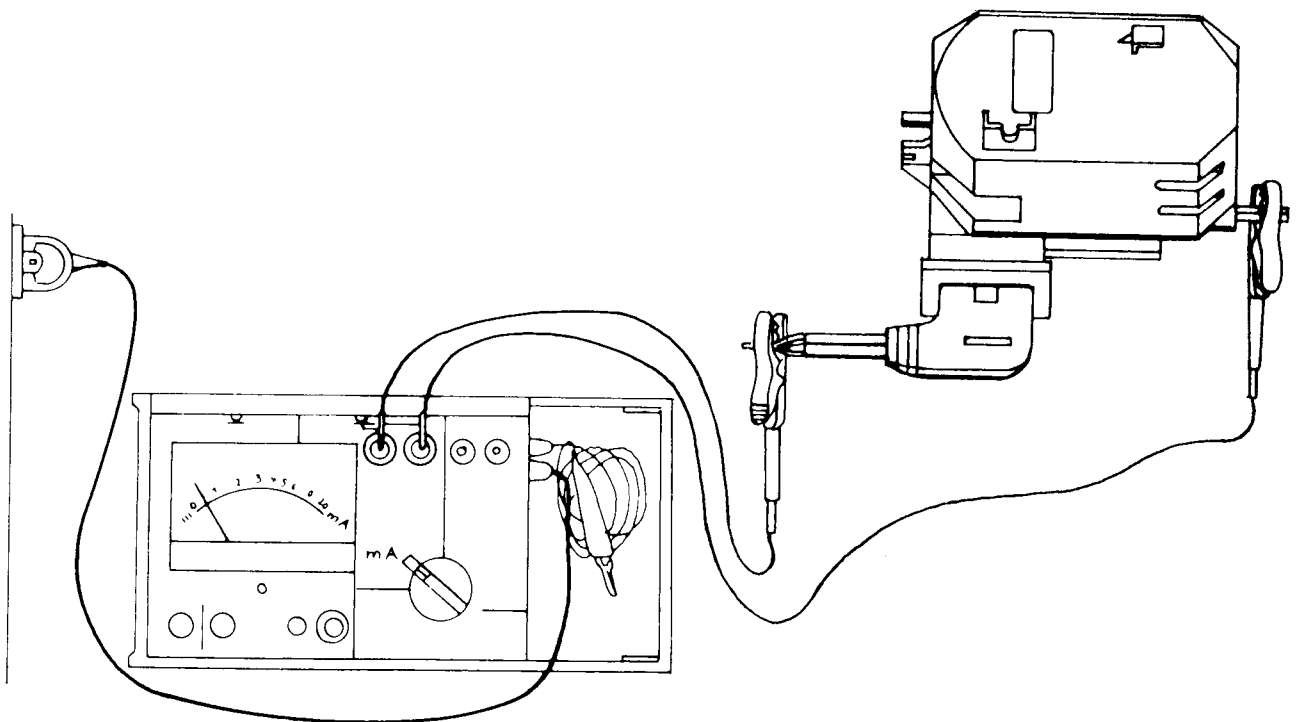

Fig. 72
- * Set switch at mA (scale III, see Fig. 72)
- * Fit angular plug No. 92-924800-04 and screw on nut No. 92-320068-05. Connect the two leads as shown in Fig. 72.